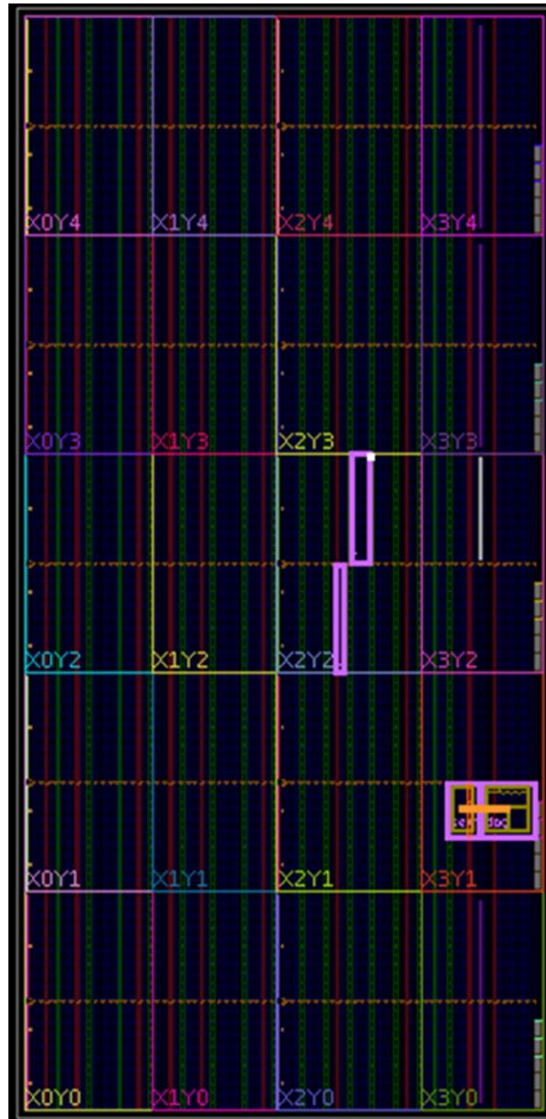

Figure 10: Final Reference Design Pblocks
10. Figure 10 shows the final reference design Pblocks. The top Pblock is the count RP region. The center Pblock is the shift RP region. The lowest Pblock is the SEM and DBG Pblocks from the SEM IP example design. The SEM IP example design Pblocks were not modified.